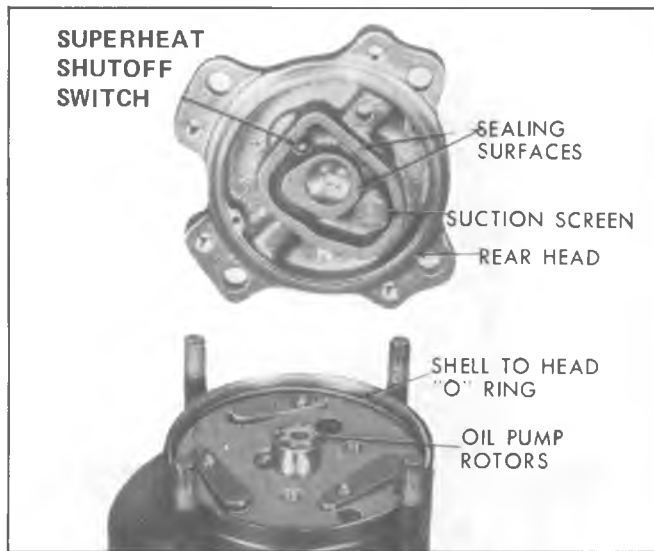

Fig. 25--Rear Head Removal
5. Wipe excess oil from all sealing surfaces on rear head casting webs, and examine sealing surfaces (Fig. 25). If any damage is observed, the head should be replaced.